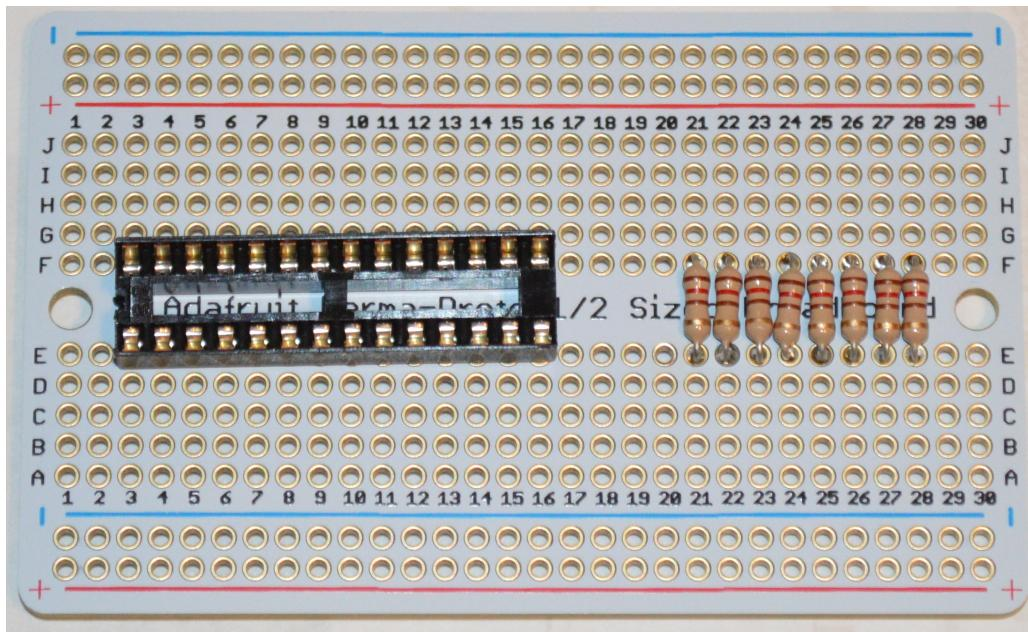

Figure 2.1: GPIO Board with Socket and Resistors
- First, solder the resistors and socket. See Figure 2.1.